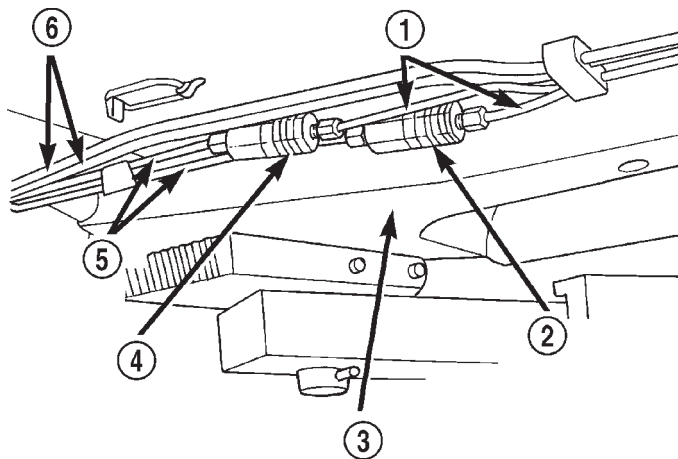

Fig. 17 Proportioning Valve Location
One proportioning valve controls the right rear brake, and the other proportioning valve controls the left rear brake (Fig. 17). Therefore, a road test to determine which rear brake slides first is essential. Once the wheel which is skidding first is determined, use the following procedure to diagnose the proportioning valve.
(2) Remove the chassis brake tubes (Fig. 17) from the proportioning valve controlling the rear wheel of the vehicle which has premature wheel skid.
(3) Remove the proportioning valve from the rear brake chassis tube.
(4) Remove the routing clips for the chassis brake tubes and fuel lines from the floor pan.